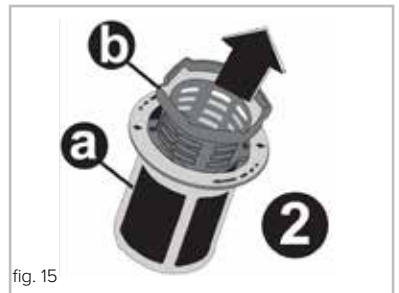

fig. 15
3. Remove the coarse filter from the micro-filter (figure 15).